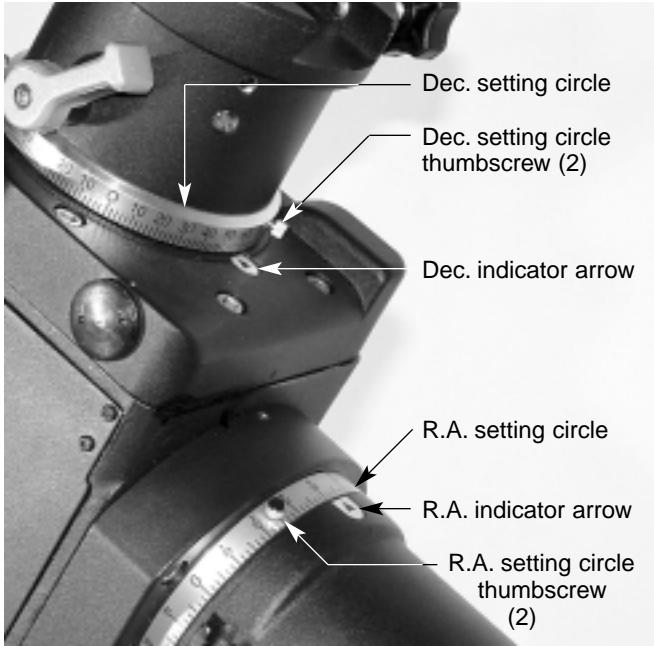

Figure 9. The R.A. and Dec. setting circles.
The setting circles on an equatorial mount (Figure 9) enable you to locate celestial objects by their "celestial coordinates". Every object resides in a specific location on the "celestial sphere". That location is denoted by two numbers: its right ascension (R.A.) and declination (Dec.). In the same way, every location on Earth can be described by its longitude and latitude. Right ascension is similar to longitude on Earth, and declination is similar to latitude. The R.A. and Dec. values for celestial objects can be found in any star atlas or star catalog.
4. Loosen one of the R.A. setting circle thumbscrews (see Figure 9) this will allow the setting circle to rotate freely. Rotate the setting circle until the R.A. pointer arrow indicates the R.A. coordinate listed in the star atlas for the object. Re-tighten the setting circle thumbscrew.